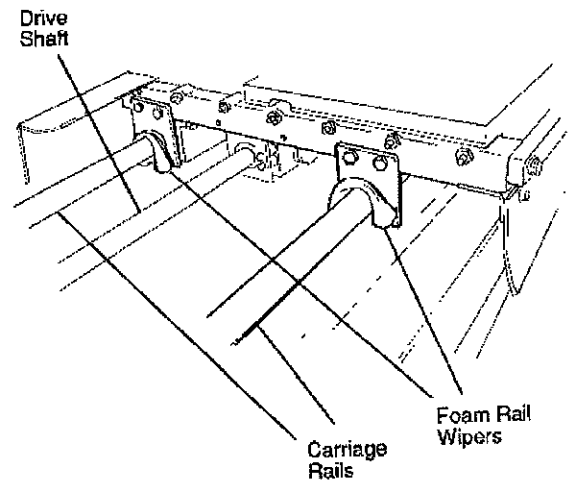

FIG. 15
5. Replace the two foam rail wipers (FIG. 15) every 6 months of operation. Note: Wipers are removed if optional bellows are installed.